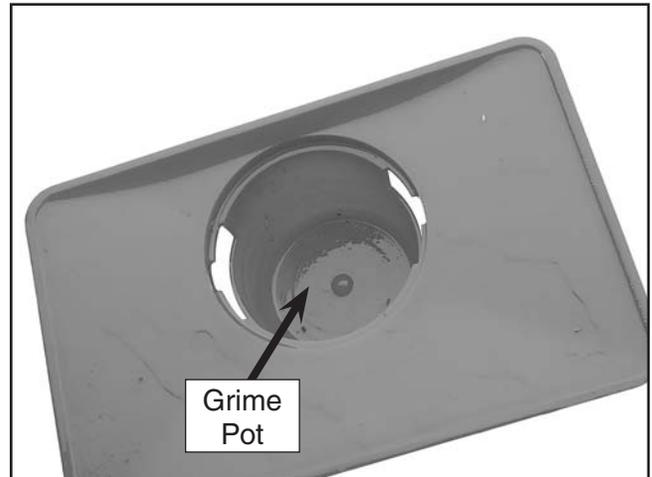

Figure 19. Grime pot.
5. Clean the screen and the grime pot (**Figure 19**).